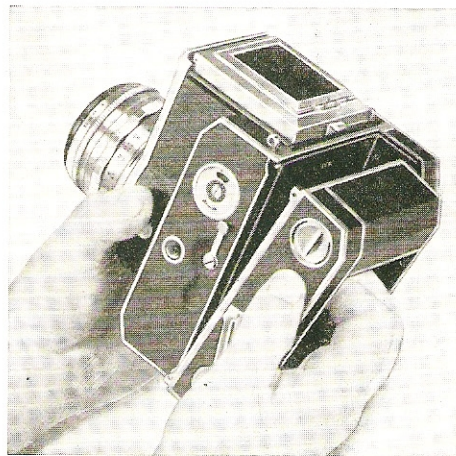

Fig. 4
To unlock the camera back (30), the lever (31) must be swung along the surface of the camera body, clockwise, half a rotation upwards, i. e. in the direction of the lighthouse (1). Push the camera back (30) about 3 to 4 mm to the left (looking at the back of the camera) and take it off. — When replacing the camera back, take the camera into your left hand, the camera back into your right hand and attach the back so as to leave a space of not more than 3 to 4 mm between the projecting part of the camera body and the right-hand edge of the camera back, as in Fig. 4. Place the back in an angular position to the camera and let the bottom edge of the back exactly into the groove of the camera body. Now fold the upper part of the back against the camera body and push it
Attach camera back as described. Take care that the back is attached from the far right as shown in Fig. 4 (space between camera back and projecting part of the camera body not more than 3 to 4 mm), otherwise protective paper might be damaged! Turn the winding disk (27) seven times from its resting point to the stop, letting it run back each time. Before this performance,